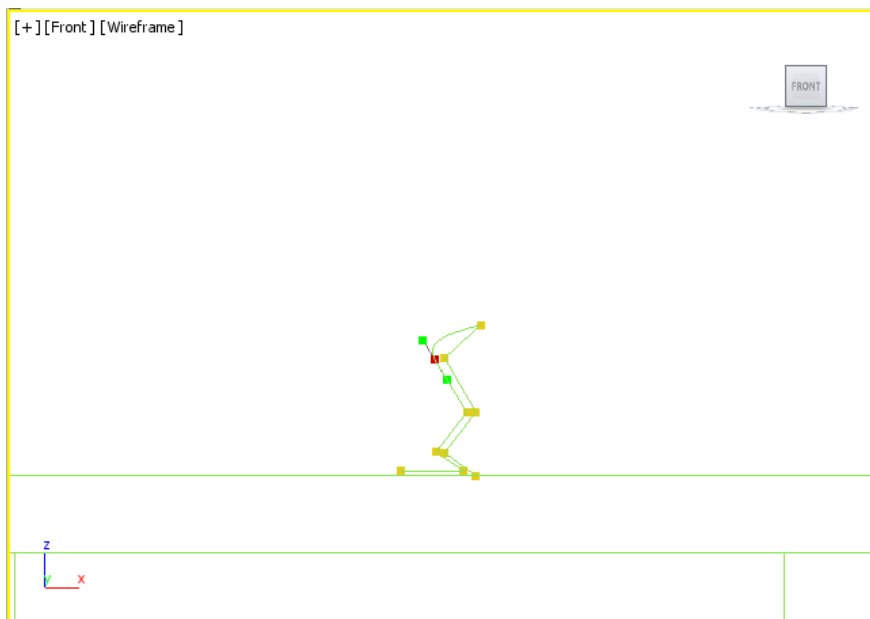

Figure 5-13 The curve reshaped by dragging the bezier handle
12. Next, hold the upper green handle and drag it to left so that the curve looks similar to the one shown in Figure 5-13. If you make a change by mistake, choose the **Undo Scene Operation** button to undo the previous change.